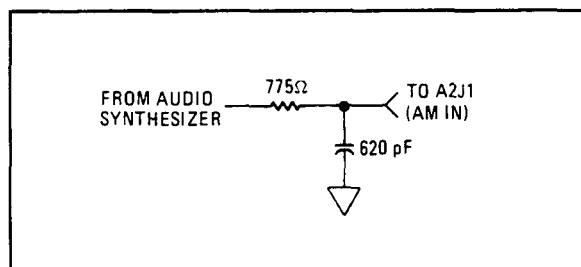

Figure 8F-14. Filter for $\boxed{\checkmark 1}$ Step 2
2. Construct the input load for the AM input as shown in Figure 8F-14. The 775 Ω resistor can be constructed from a 2150 Ω resistor in parallel with a 1210 Ω resistor.